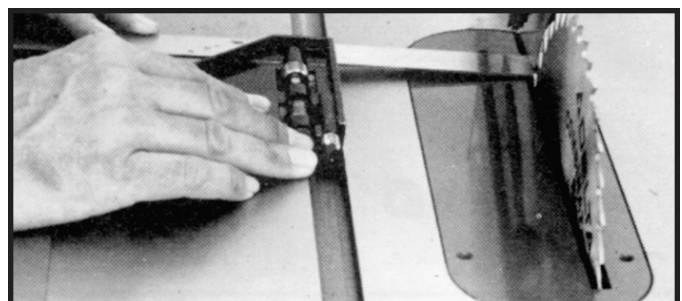

Fig. 45
2. Rotate the saw blade so that the same tooth you used in **STEP 2** is in the rear position, as shown in Fig. 45, and check this distance. Both the front and rear measurements should be identical.